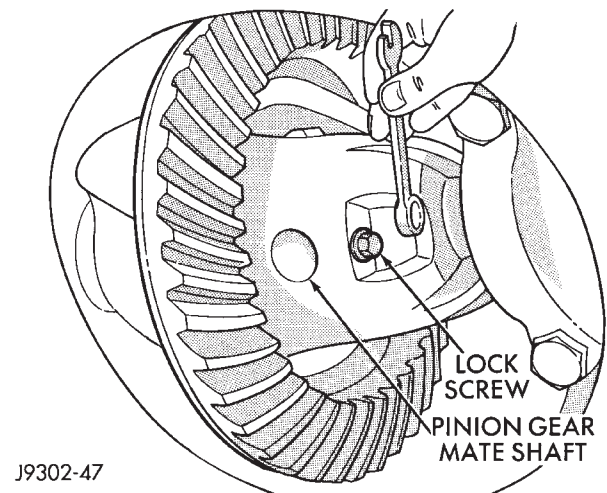

Fig. 7 Mate Shaft Lock Screw
(4) Remove the pinion gear mate shaft lock screw (Fig. 7).